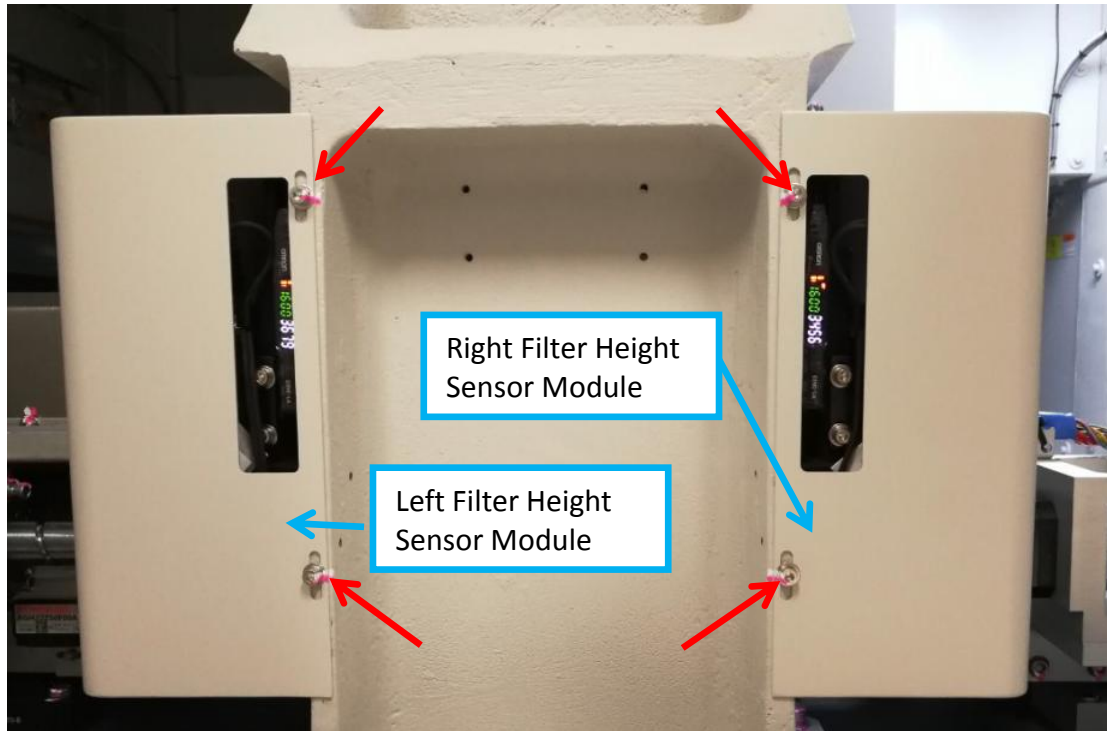

Figure 1
3. Loosen 2 x Screws & dismantle particular Filter Height Sensor Module Metal Cover as below Figure 1